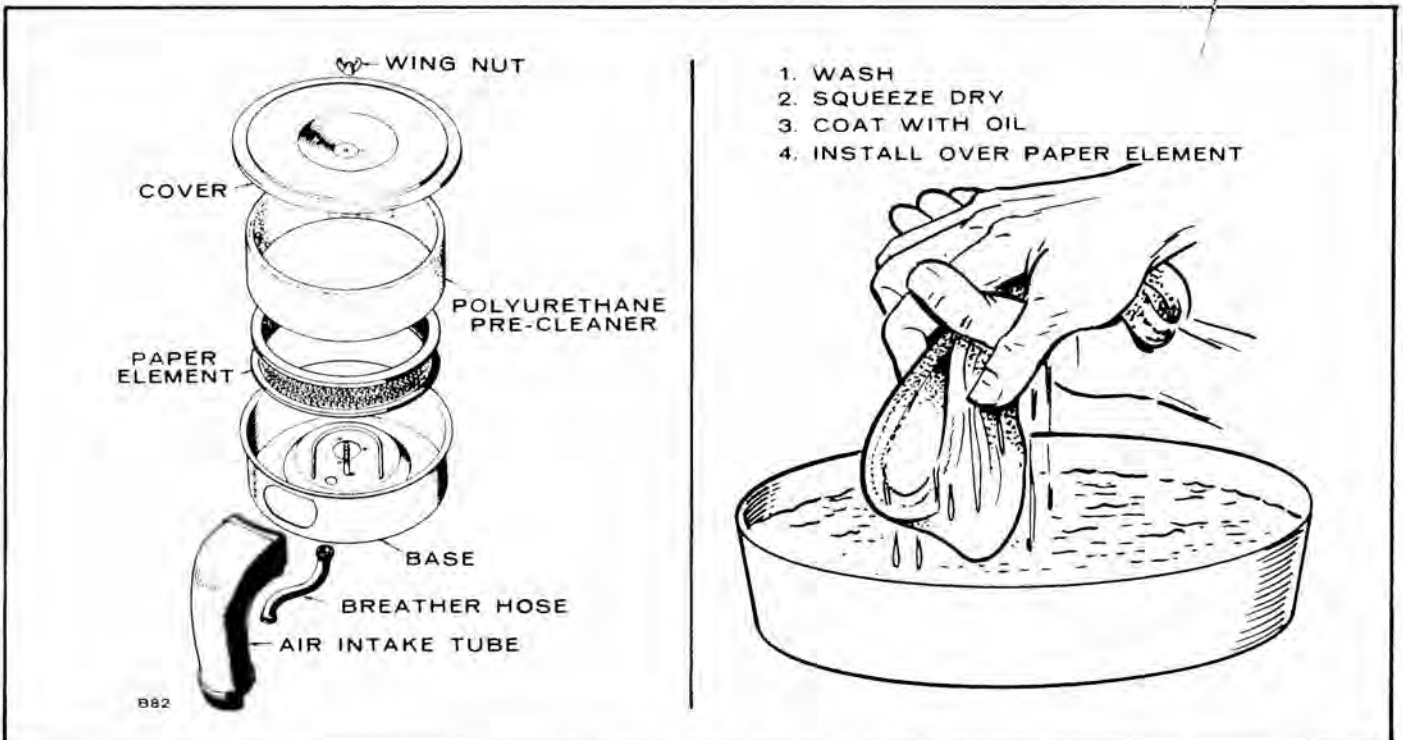

FIGURE 10. AIR CLEANER ASSEMBLY
1. To clean pre-cleaner wash in water and detergent referring to Figure 10. Remove excess water by squeezing like a sponge and allow to dry thoroughly. Distribute three tablespoons of SAE 30 engine oil evenly around the pre-cleaner. Knead into and wring excess oil from pre-cleaner.